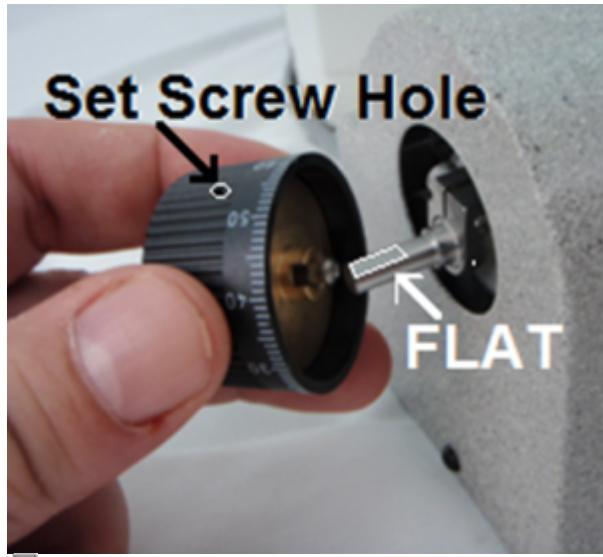

Figure 5d
- d) Lining up the set screw hole with the flat spot on the fine focus extension shaft, slide the microscope fine focus knob over the Z-Drive shaft extension and press it on all the way (figure 5d). Note: You may have to loosen the set screw to get the knob to slide on all the way.